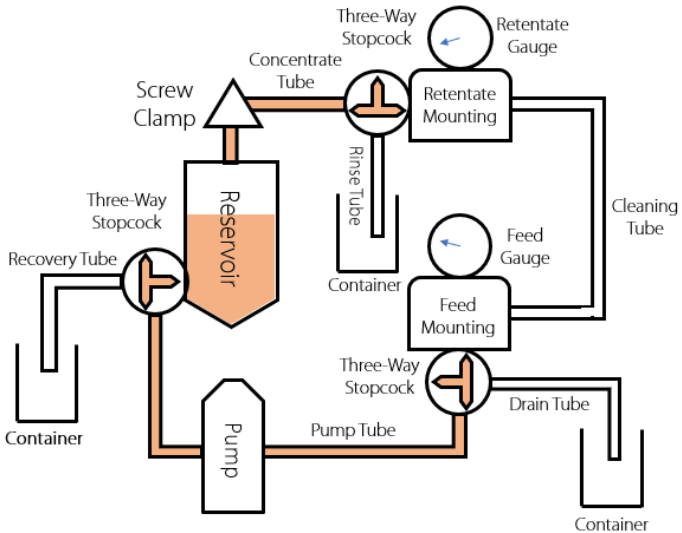

Figure 3
- c. If you need to collect the solution in the system after experiment, please turn off the pump first and adjust the three-way stopcocks, then exchange the capsule to the cleaning tubing as shown in figure 3.